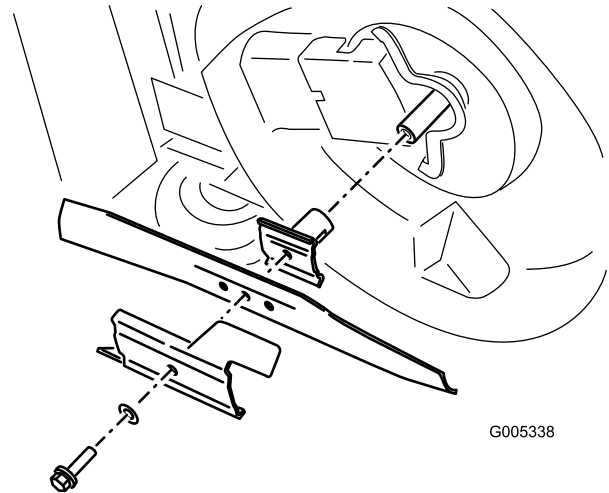

Figure 31
4. Tip the mower onto its side with the air filter up (Figure 31).
Grasp the end of the blade using a rag or a thickly padded glove. Remove the blade bolt, accelerator, and the blade (Figure 31).